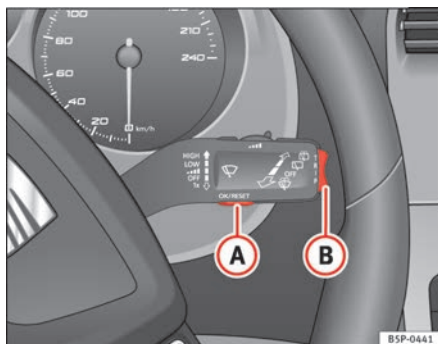
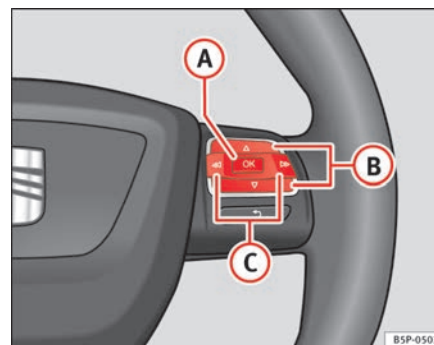

Fig. 43 Windscreen wiper lever: button A to confirm the menu selection and rocker switch B to change the menu
Fig. 44 Steering wheel controls: button A to confirm the menu selection and switch B to change the menu
⇒ page 66, fig. 44 until the menu is displayed. Now you are in this menu.
- To change from one memory to another, briefly press button **A** ⇒ page 66, fig. 43 ⇒ page 66 on the windscreen wiper lever or the **OK** button on the multifunction lever ⇒ page 66, fig. 44 ⇒ page 66 while the ignition is switched on. ▶
The following data can be viewed on the multifunction display using the rocker switch **(B)** ⇒ page 66, fig. 43 ⇒ page 66 on the windscreen wiper lever or by pressing button **(△)** or **(▽)** ⇒ page 66, fig. 44 on the multifunction steering wheel*.